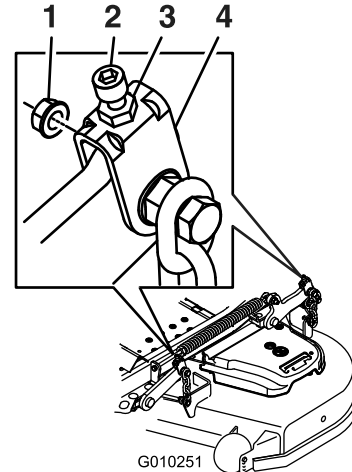

Figure 87
10. If needed, loosen the whizlock nut on the side of the yoke and the jam nut on top. Fine tune the screw adjuster by turning it to get 3 inch (7.6 mm) height (see Figure 87).
- Fine tune the screw adjuster by turning it to get 3-1/4 inches (8.3 mm) height (Figure 87).